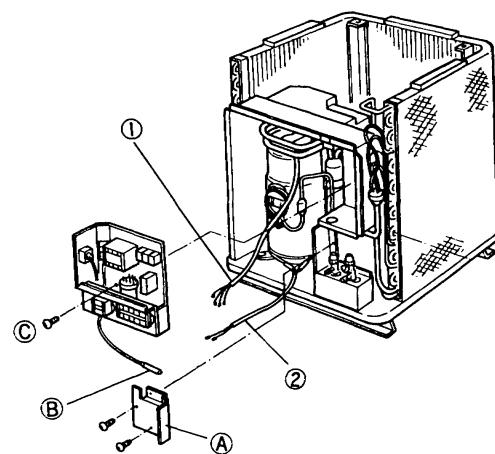

Fig. 11
- (2) Remove the cover plate **A** and the sensor **B**.
- (3) The electrical component box can now be removed by unscrewing one screw **C**. Fig. 11.